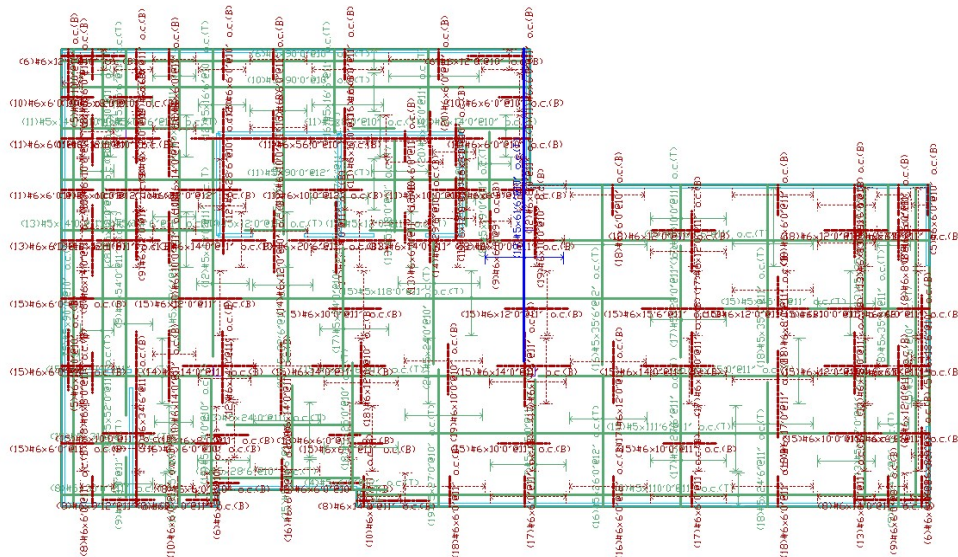

FIGURE 6.8-11 INITIAL REBAR ARRANGEMENT
- The program will display the requirement of rebar at the top and bottom faces of the slab and/or beams at all positions for the enveloped condition (considering strength requirement and minimum rebar for service condition when required per code) as shown in **Figure 6.8-11**.